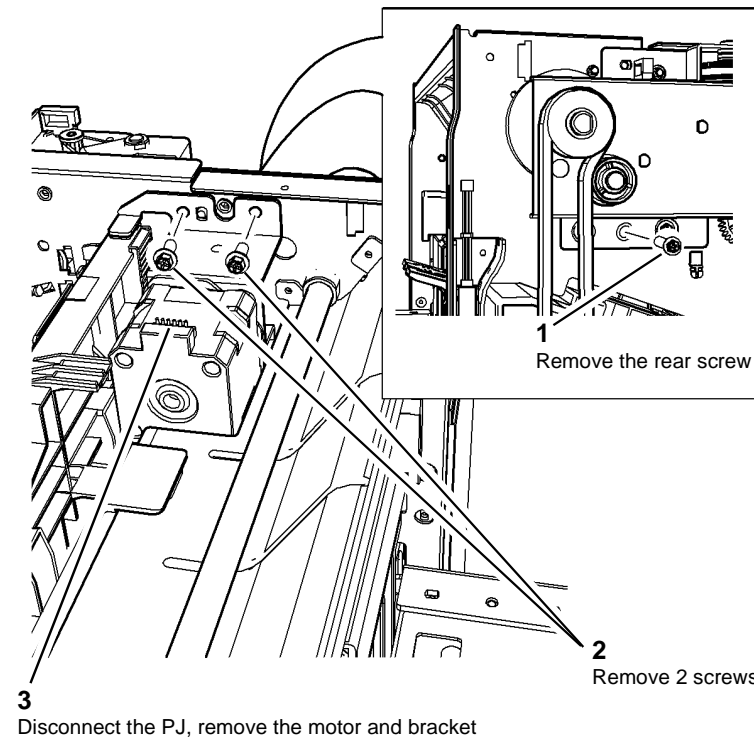

Figure 1 Paper pusher motor assembly
2. Remove the paper pusher motor assembly, Figure 1.